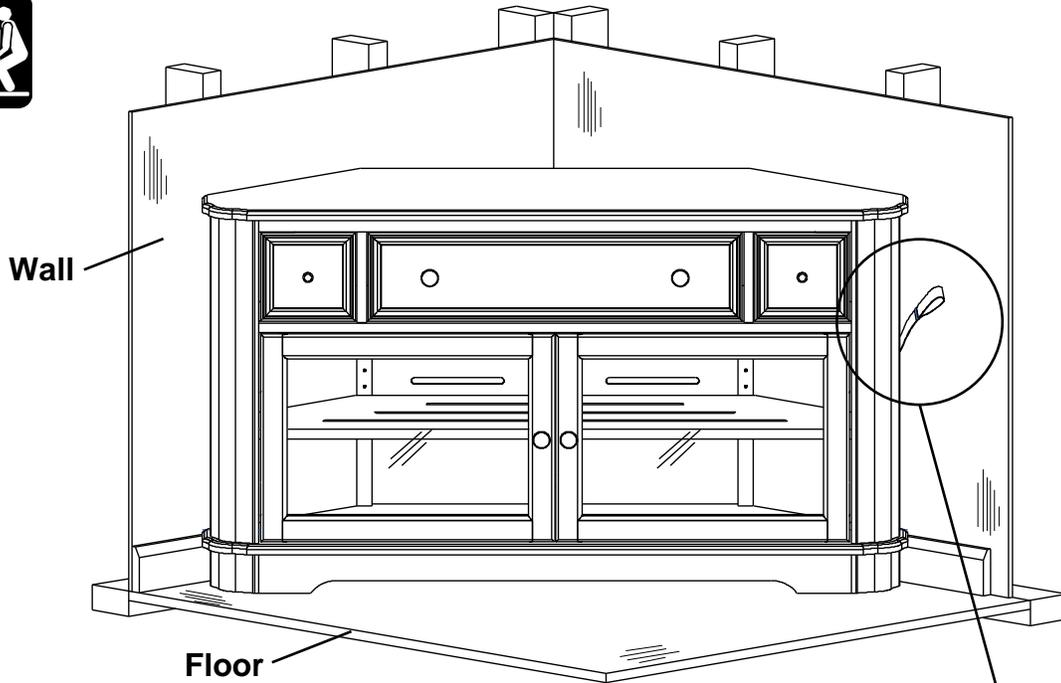

Fig. 5
5. Move the item back into position against the wall and reach behind the piece of furniture to grasp the loop in the free end of the strap. Pull the free end of the strap until portion between the Cam Buckle (A) and the back apron of the item is tight. See Figures 5 and 5a. If you need to move the piece of furniture reach behind and locate the buckle which connects the two sections of the strap and depress the release lever, then pull on the section of strap that is between the buckle and the back apron of the furniture until there is enough slack to allow you to pull the item away from the wall.